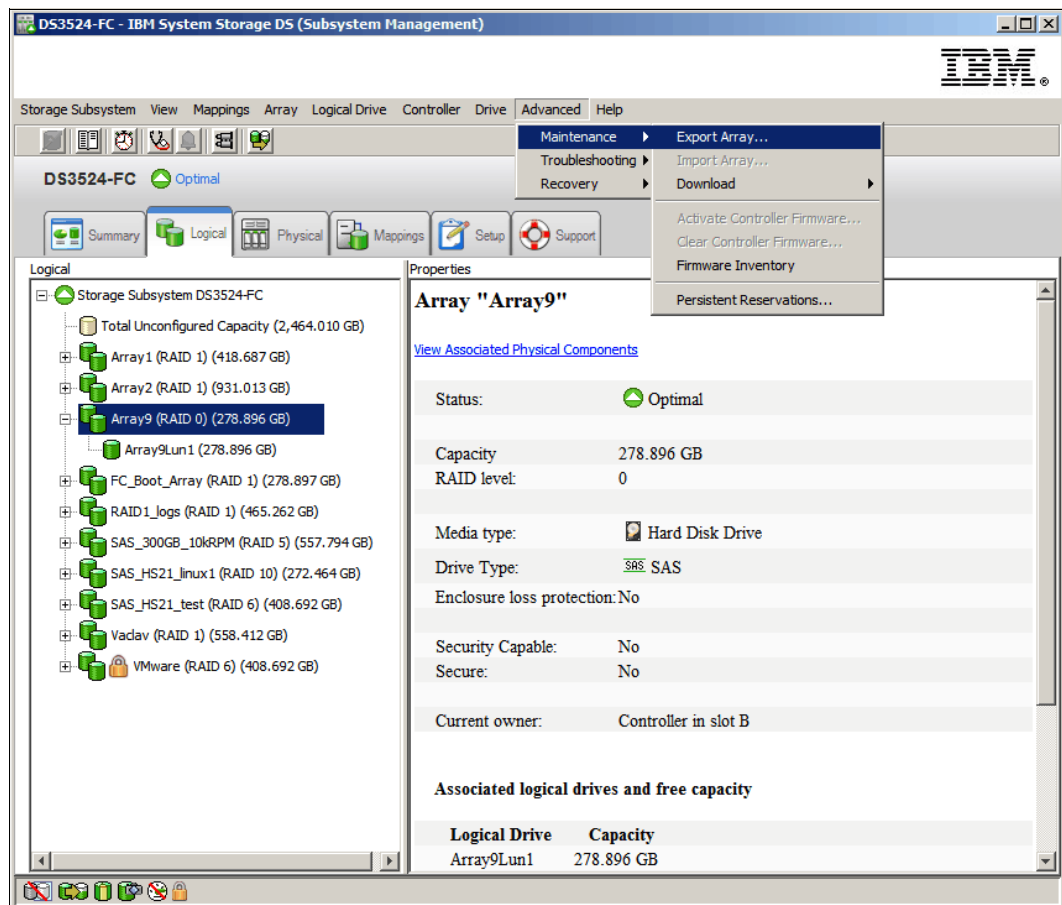

Figure 14-101 Select an array to be exported
1. Open the Storage Manager logical tab and select the array to be exported. Click **Advanced** → **Maintenance** → **Export Array** as shown in Figure 14-101.